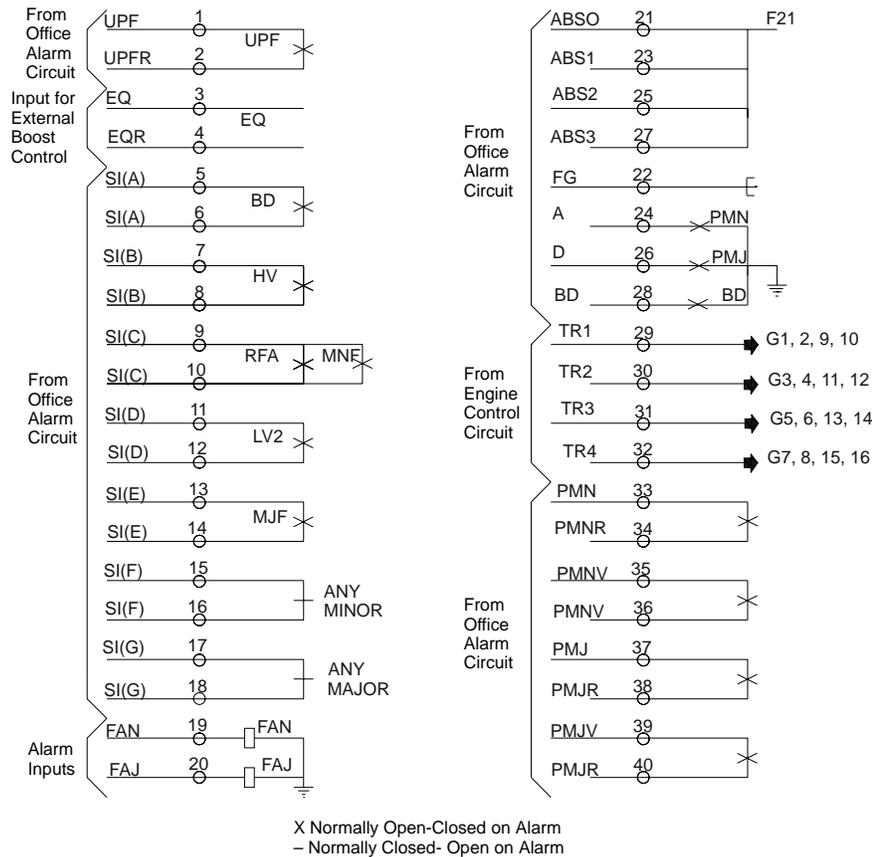

Figure 3-6: MCS TB1 Alarm Connections
1. Remove, mark or tag and insulate all external wires (office alarms) terminated on TB1. See Figure 3-6.